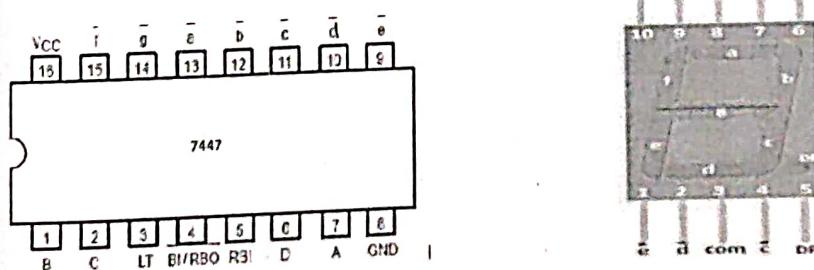

Figure 5: PIN diagram of IC-7447 and 7 segment display
2. **IC 7447 BCD to seven segment decoder/driver IC:** It is a 16 pin IC, which accepts a binary coded decimal as input and converts it into a pattern to drive a seven-segment for displaying digits 0 to 9. BCD is an encoding method in which each digit of a number is represented by its own binary sequence (usually of four bits). It accepts four lines of BCD (8421) input data and generates their complements internally. The outputs correspond to common anode (CA) configuration of seven segment as shown in Figure 5.